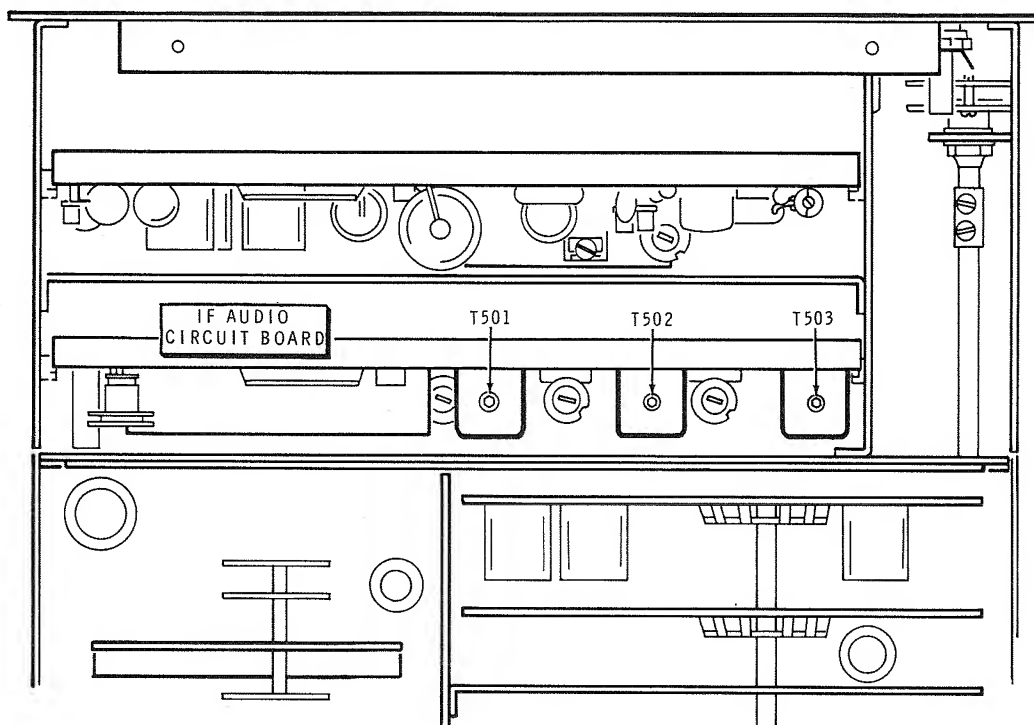

Figure 15
- ( ) Refer to Figure 15 and adjust IF transformers T501, T502, and T503 for a maximum S-meter reading with the large alignment tool.